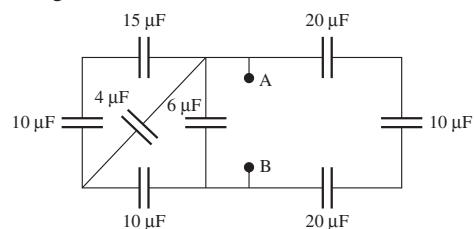

FIGURE P4.31 Capacitor network.
- 4.31 (H)** Find the equivalent capacitance between points A and B in Figure P4.31.